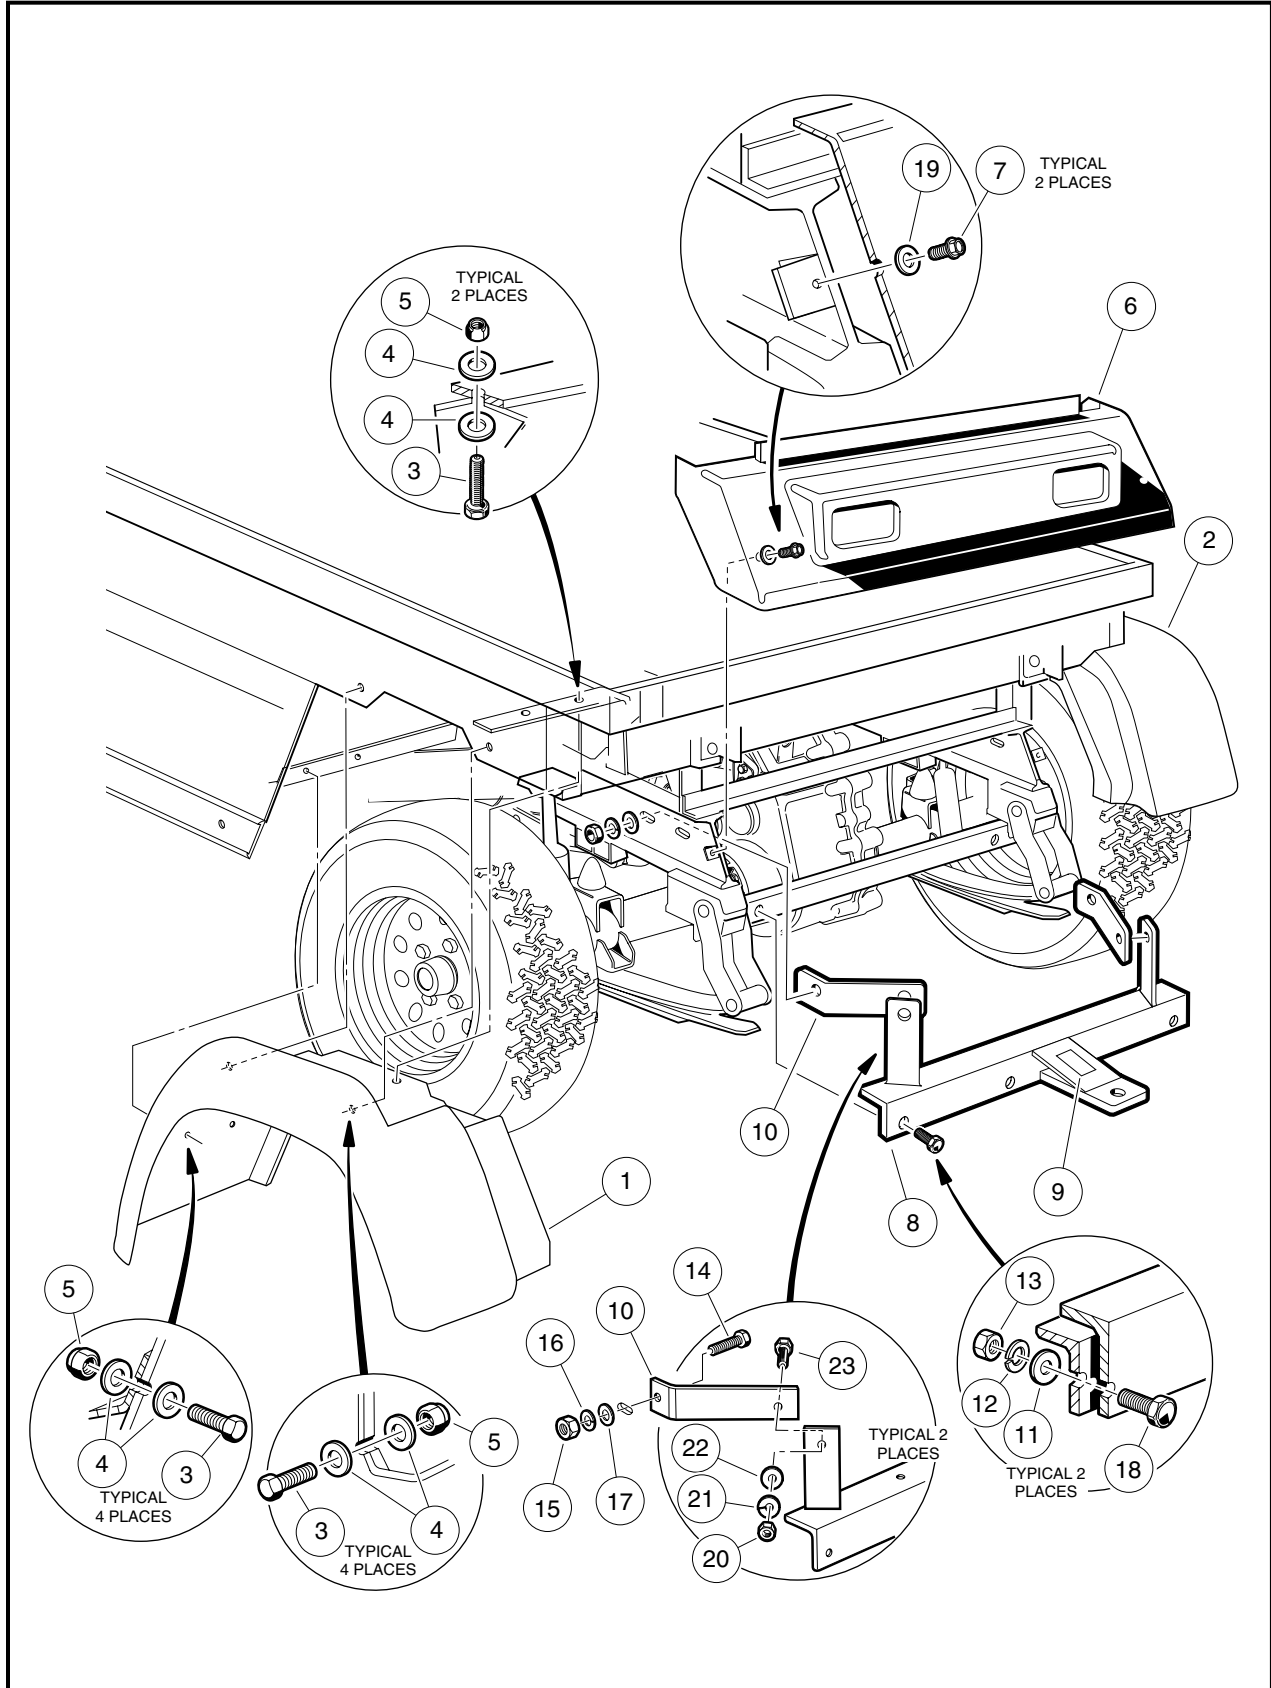

Figure 4-5 Rear Fender, Tailskirt, and Hitch – Vehicle with MC012C-AS00 Transaxle
- 1.1. Remove one 1/4-20 nylon lock nut (5), fender washers (4) and 1/4-20 x 1-inch hex-head bolt (3) from the top, and underneath, of fender (1) (**Figure 4-5, Page 4-16**).
- 1.1. Reverse removal procedure to install rear fender. Tighten all bolts securing the fender to the vehicle to 35 in-lb (4.0 N·m) (**Figure 4-5, Page 4-16**). **See following NOTE.**
- 1.1. Remove the two thread-forming screws (7) and flat washers (19) from the tailskirt (6) and slide tailskirt from under the back edge of the rear of the body and vehicle frame (**Figure 4-5, Page 4-16**).
- 1.1. Insert upper edge of tailskirt (6) under, and in front of, back edge of rear body (**Figure 4-5, Page 4-16**).
- 1.2. Remove two 5/16-18 hex nuts (20), lock washers (21), flat washers (22) and 5/16-18 x 1-inch bolts (23) from hitch brace (10) and hitch frame (8) (**Figure 4-5, Page 4-16**).
- 1.3. Remove two 5/16-18 hex nuts (13), lock washers (12), flat washers (11) and 5/16-18 x 1-inch bolts (18) where the hitch frame (8) mounts to the vehicle frame (**Figure 4-5, Page 4-16**).
- 1.1. Reverse removal procedures to install hitch frame (8) to vehicle frame, then hitch frame (8) to hitch braces (10). Tighten all hardware to 15 ft-lb (20.3 N·m) (**Figure 4-5, Page 4-16**).